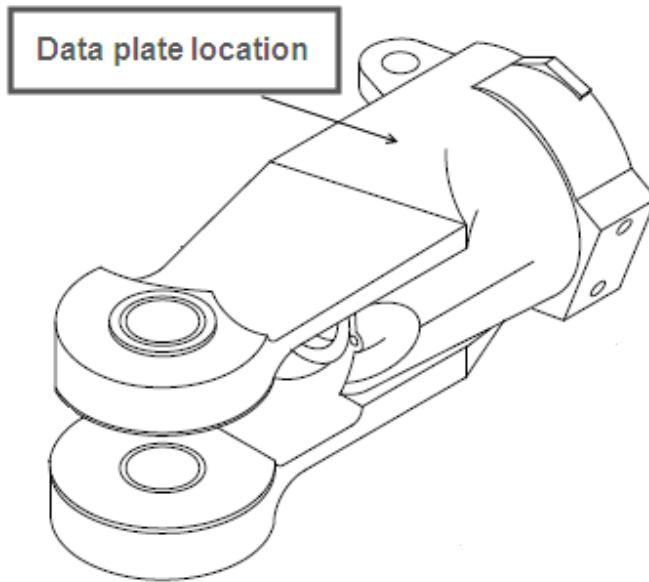

Figure 1. Main rotor grip inspection and rework.
1. Access Main Rotor Hub and inspect grip data plate for proper identification. Grip data plate should have “G” vibro-etched on data plate after part number, not impression stamped on grip. Reference Figure 1.
10. Install new data plate per BHT-ALL-SPM, Chapter 8. Install new data plate in the same location on grip where old data plate was located. Reference Figure 1.